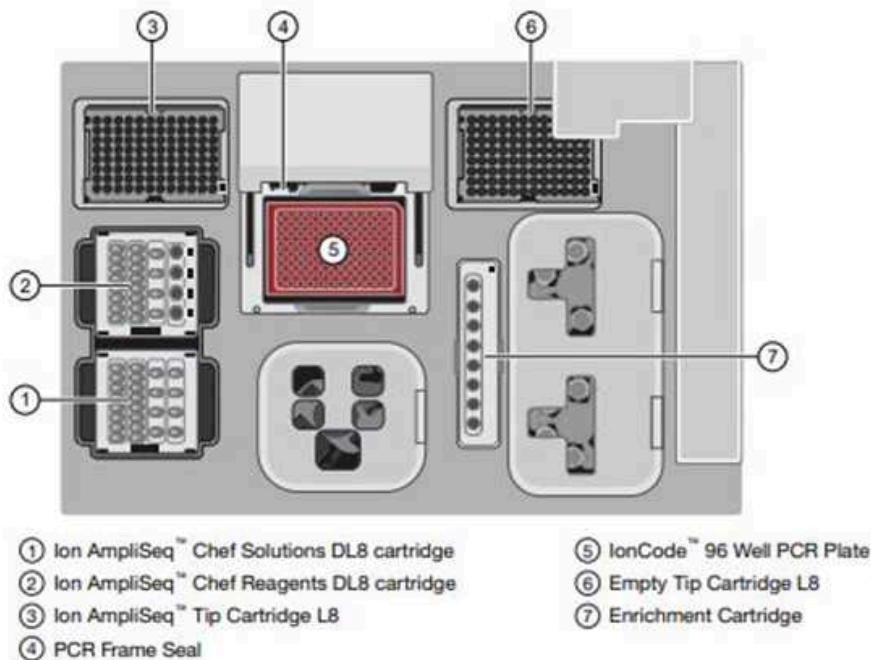

Figure 2: Positions of supplies and reagents in the Ion Chef for library prep using Ion AmpliSeq™ Kit for Chef DL8
- 9.7 In the Ionchef, go to set up a Run> Prepare library> and Open the chef door. Keep all the chef supplies and solution/reagent cartridges in the correct position, as shown in Figure 2. Close the door of the Ion Chef and start with the deck check.